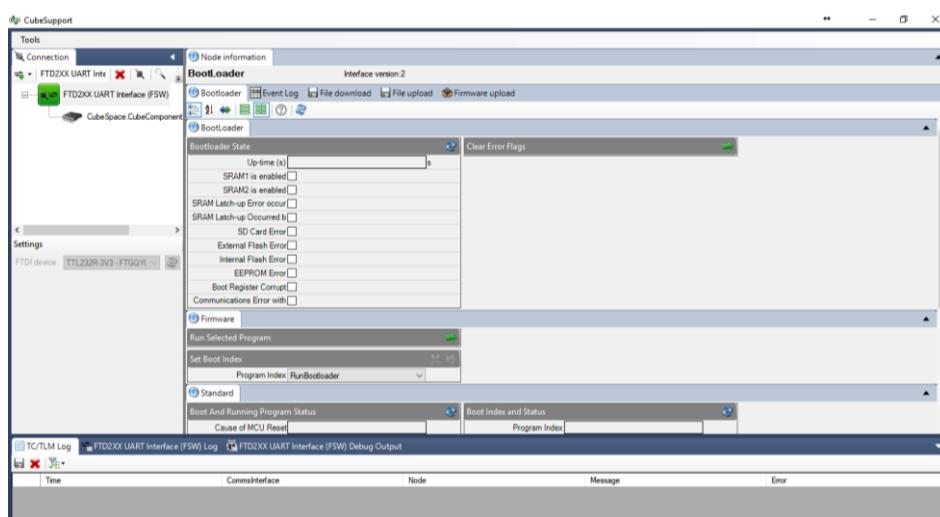

Figure 5 – CubeSupport Bootloader Interface
**Now Power on die CubeADCS and wait 1 second for everything to power on,** connect to the ADCS with CubeSupport within the first five seconds of power on by clicking on the connect button . CubeSupport should catch the bootloader and connect to the ADCS bootloader, the bootloader menu will be displayed as shown in Figure 5.